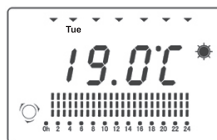

Fig. 7
2. Press the Mode button until the display shows Entering personal settings for each day of the week mode (see fig. 7)